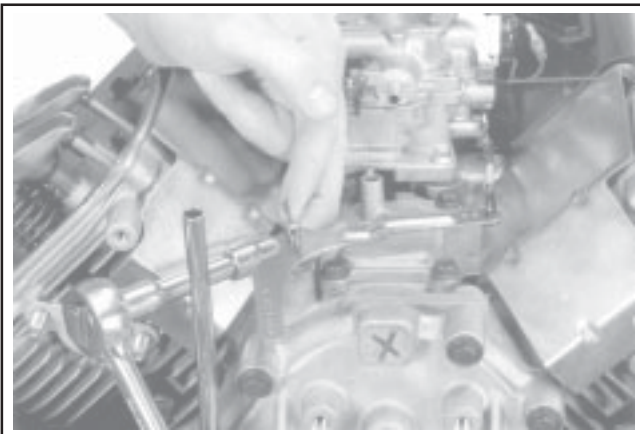

Figure 11-82. Holding and Tightening Governor Arm.
4. Insert a nail into the hole on the cross shaft and rotate the shaft **counterclockwise** as far as it will turn, then torque the hex nut to **6.8 N·m (60 in. lb.)**. See Figure 11-82.